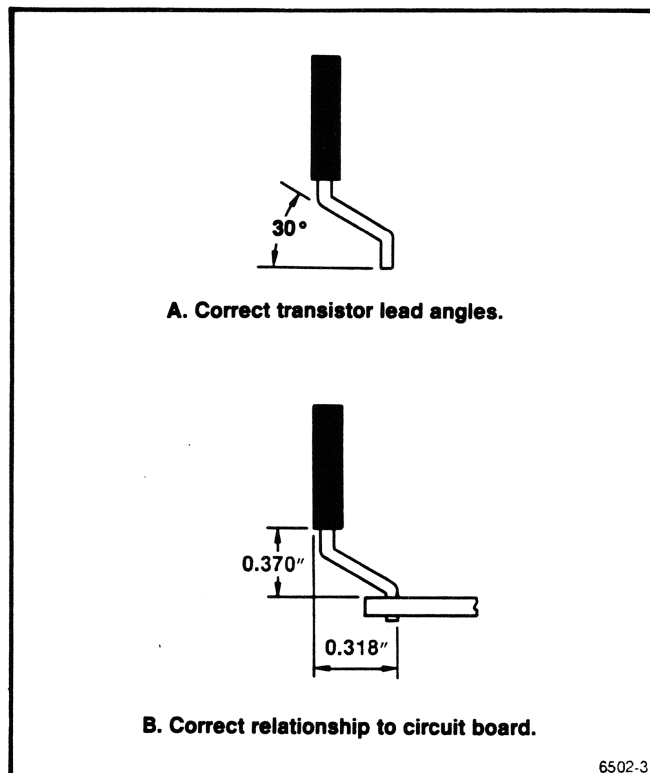

Fig. 3-1. Series pass transistor replacement. (Shown actual size.)
- b. Carefully bend the new transistor leads according to the dimensions in Fig. 3-1. The illustration is actual size so that you can physically compare the lead angles with the drawing.